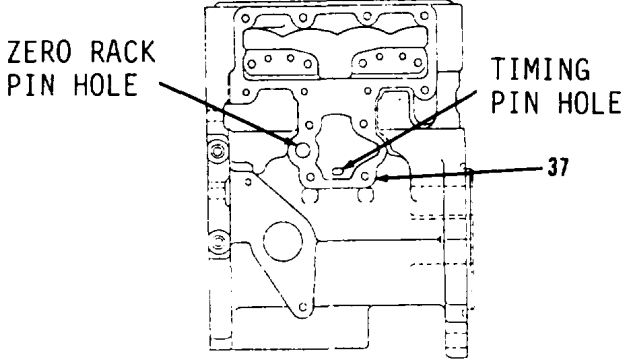

Figure 3-87.
- 2. Center rack (37). Install timing pin in zero rack pin hole. Move rack (37) until timing pin engages with center groove in rack (37, Figure 3-87).